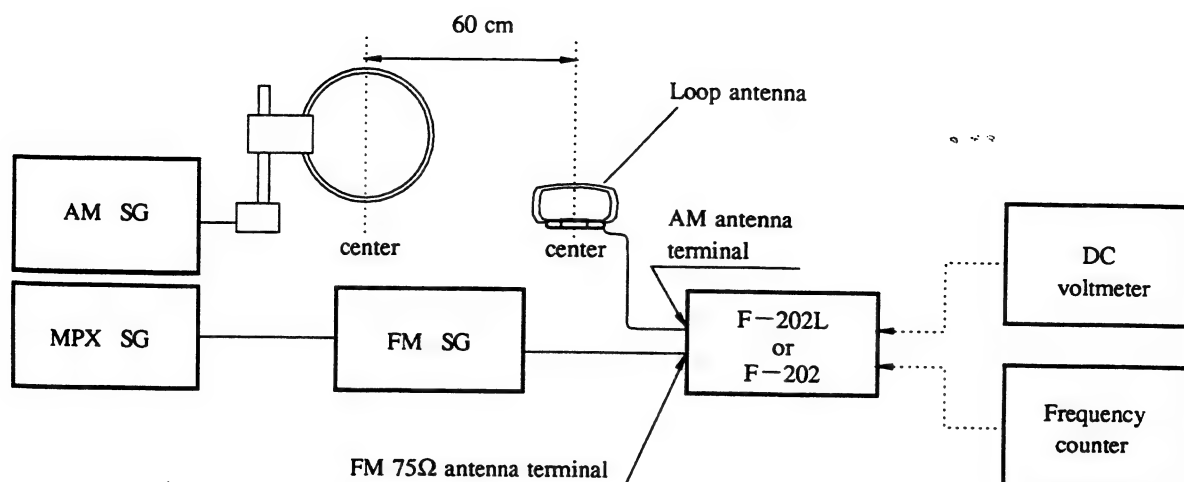

Fig. 1 Connection Diagram
- Connect the wiring as shown in the Fig. 1.